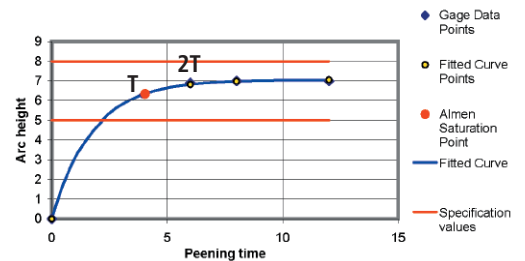

Figure 2. The Curve Solver tabulates the saturation curve. It's free from www.shotpeener.com.
Verification of the requested intensity requires the establishment of an intensity saturation curve (graphical plot of arc height versus peening time or other time-based parameter). The saturation curve is plotted with a minimum of four Almen strip arc height readings that were peened with fixed machine settings. Plotting arc heights manually is laborious and often inaccurate. Fortunately, it's also outdated. Illustrated in Figure 2 is the Curve Solver program developed by Dr. David Kirk. Enter the arc height readings from an Almen gage for at least four peened Almen strips into the program and it will compute the saturation point intensity. Figure 2 shows that doubling of the time (2T) from the initial peening time (T) resulted in less than a 10% increase in Almen arc height. This is called the "10% rule" and it means that the process reaches saturation at "T." Saturation establishes the actual intensity of the shot
By far, the concepts of saturation time and coverage cause the most confusion for new and experienced shot peening personnel. First, a definition of coverage: Coverage is the measure of the original surface area that has been obliterated by shot peening dents. If the goal is "100% coverage", the length of machine cycle time to achieve 100% coverage will differ based on the hardness of the material to be peened. Looking at Figure 2, it's easy to see why people get confused about the proper machine cycle time. According to this chart, the saturation point for the arc height (intensity) was achieved at around 4.8 minutes of **peening time**. Do not dwell on this number. Peening time is not the machine cycle time, it's only a graphical tool to establish intensity. Do NOT use it for determining machine cycle time for full coverage.